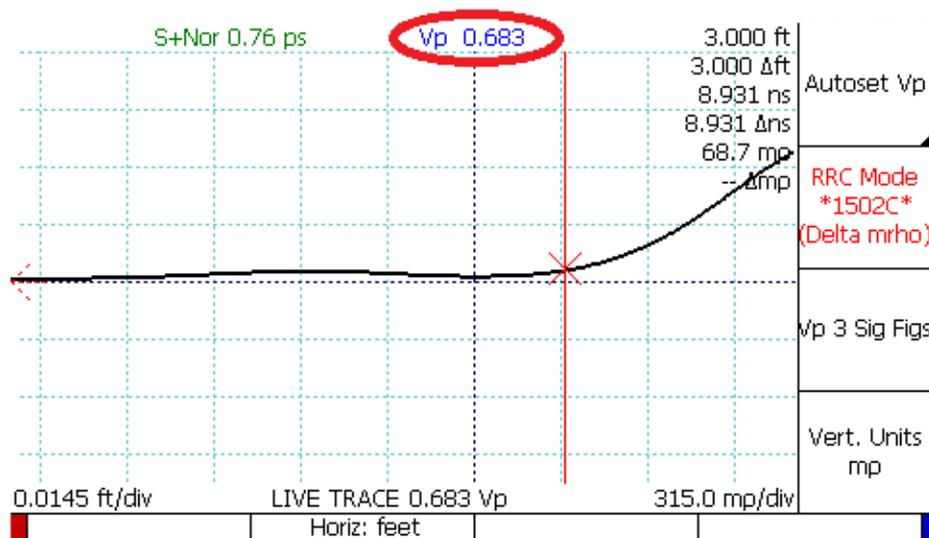

Figure 4.7. Final Vp of the cable.
5. Press the *M-FUNC* button to set the *M-FUNCTION* to V_p , and adjust V_p using the *M-FUNCTION* knob until the CT100B distance measurement to the active cursor equals the physical measurement. The final V_p value is the true V_p value of the cable (Figure 4.7). Note that in the *Measurement* → *Meas. Settings* menu there is an option to set V_p to six significant digits.